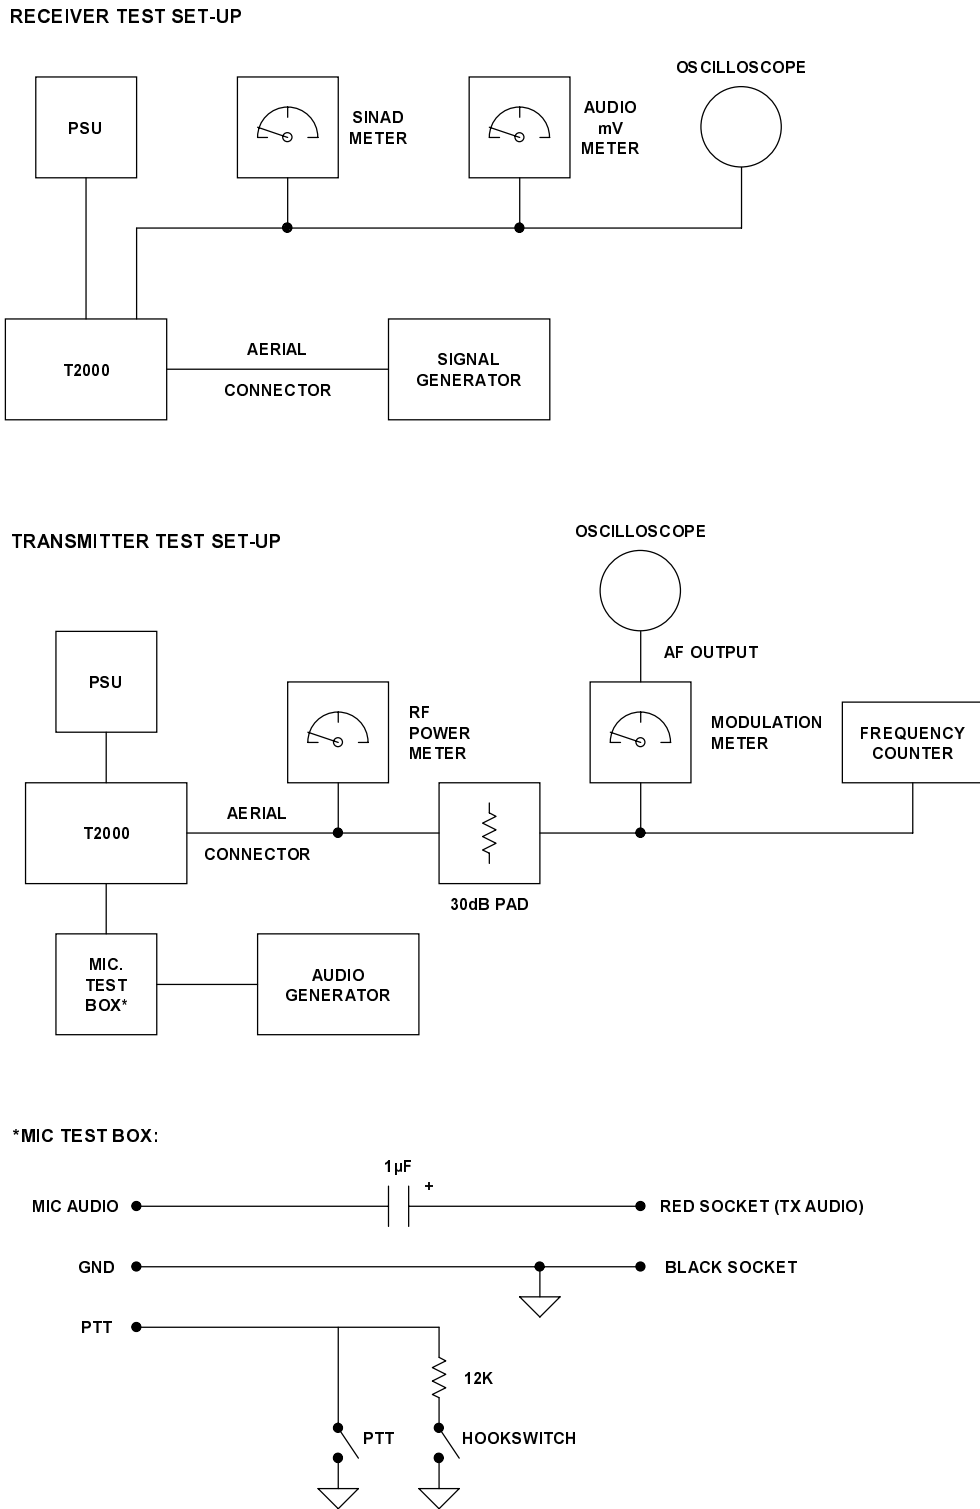

Figure 4.1 Suggested Test Equipment Set-Up
- Microphone test box (refer to Figure 4.1).